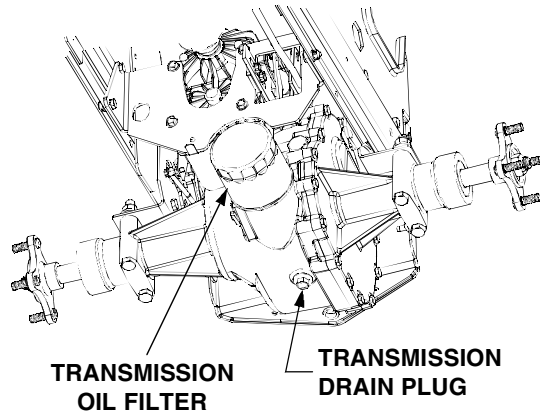

Figure 6-2
having a capacity of more than 6 quarts. Reinstall the drain plug (See Figure 6-2).
3. Clean around the base of the transmission oil filter and remove the filter by turning it counterclockwise (Refer to Figure 6-2).